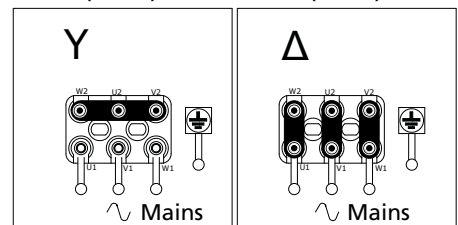

Figure 11
3. Connection to the terminal board must be done according to the wiring diagrams (see Figures 11 and 12).